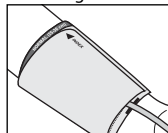

Fig. 9
5. On the fixed cuff the sign «INDEX» should point to the area «NORMAL» (fig 9). It means that the cuff is chosen correctly and fits the size of your upper arm. If the sign points to the area marked «<|||» or to the left, the cuff is too small and the readings will be higher. If the sign points to the area marked «|||>» or to the right, the cuff is too large and the readings will be lower.